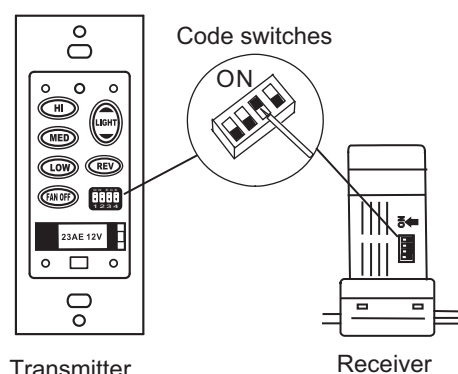

Figure 4
5. The position, (either up or down) of the frequency switches (dip switches) on the transmitter control the operational radio frequency and **MUST** match, in the same order, the switches on the receiver unit. See Figure 4. Any combination of settings is fine as long as the transmitter and receiver are set in **EXACTLY** the same order.